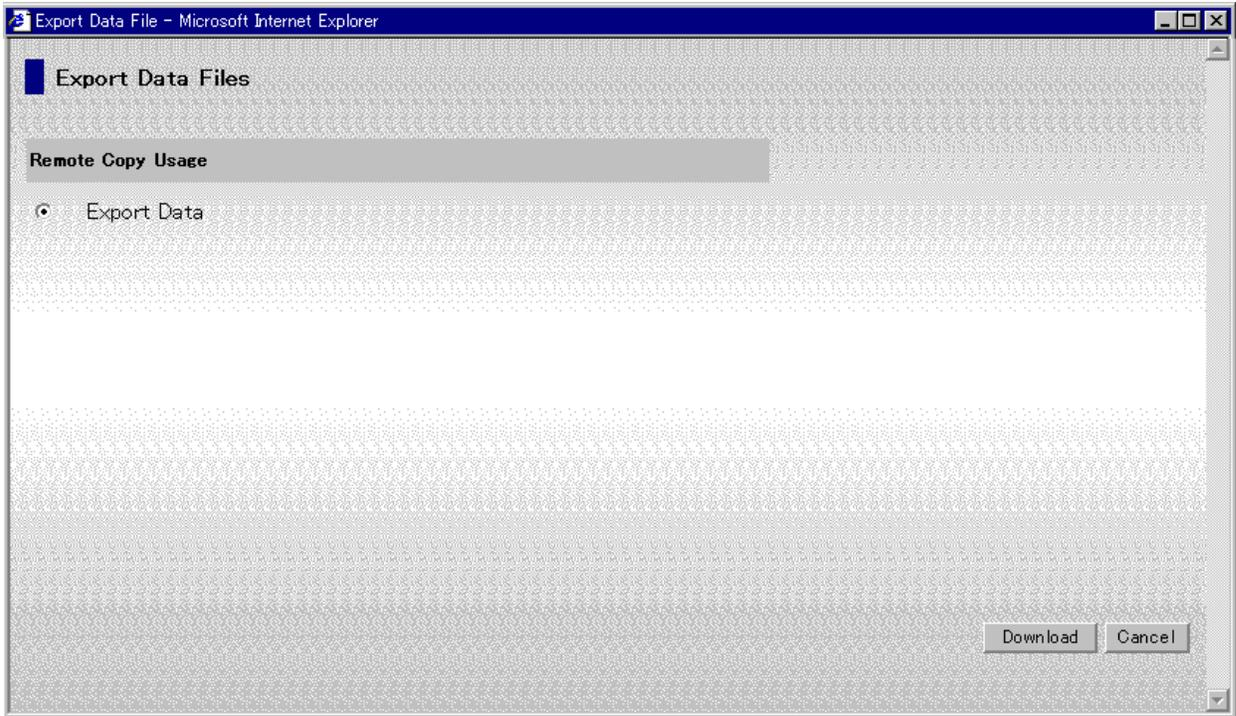
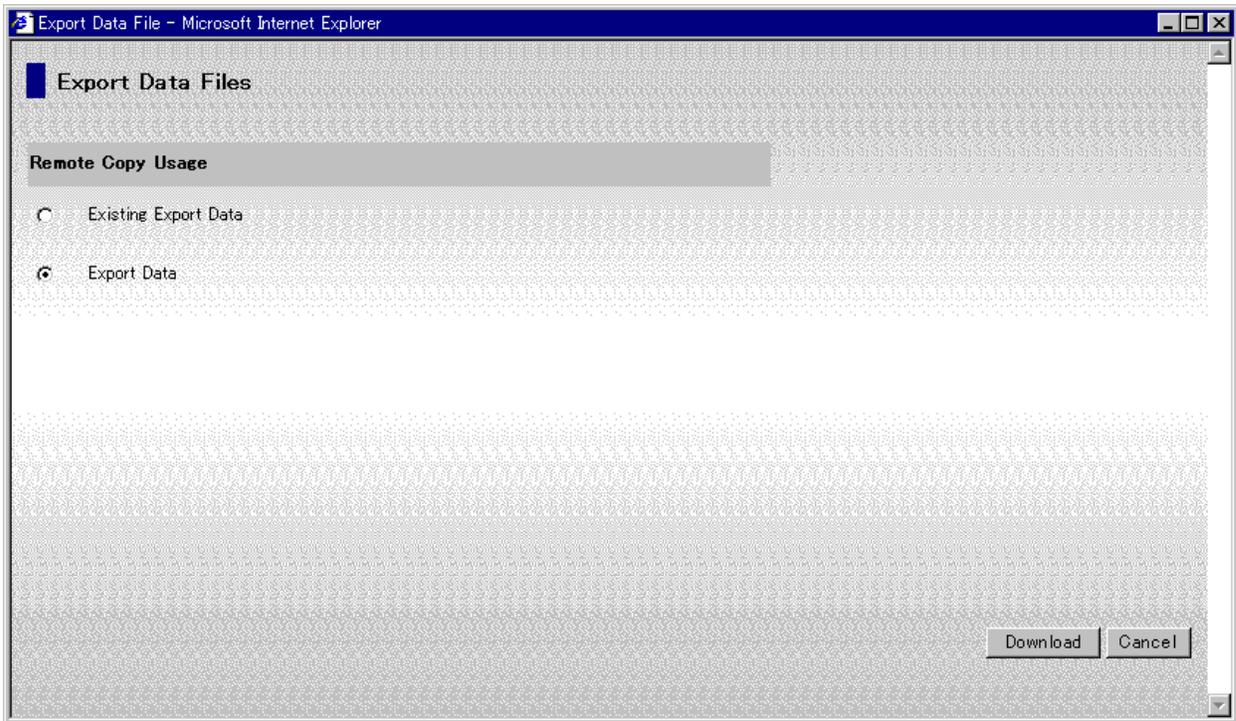

Figure 4.34 Export Data Files – Remote Copy Usage (first export operation shown)
Figure 4.35 Export Data Files – Remote Copy Usage
4. Click **Next>>** to open the Remote Copy Usage panel (see Figure 4.34, Figure 4.35).
- When you are downloading the usage monitor file for the first time, select **Export Data** (see Figure 4.34), and then select **Download**.
- After you have downloaded the usage monitor file at least once, select **Existing Export Data** (see Figure 4.35), and then select **Download**.
**Note:** If file compression takes too long, the browser may time out. Close the Compressing Files panel (close (X) button), and restart the export operation (step 2).